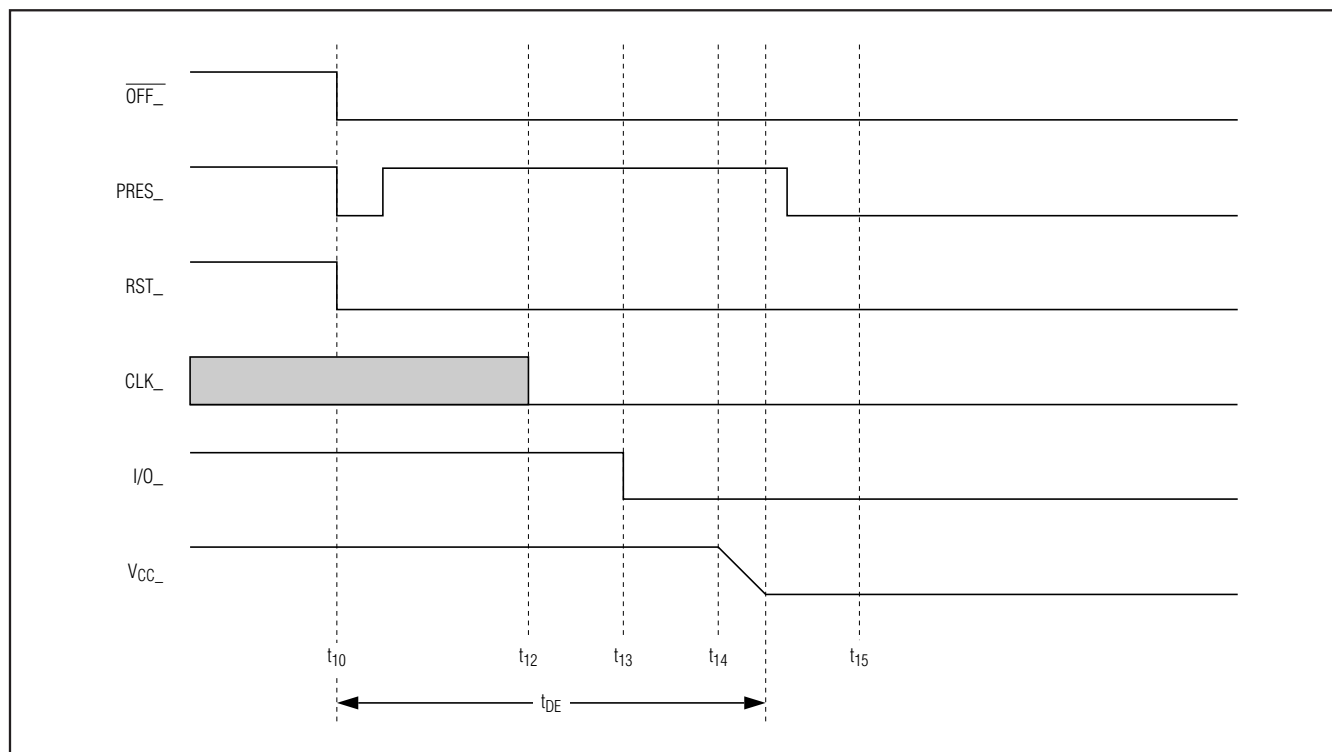

Figure 7. Emergency Deactivation Sequence (Card Extraction)
- **$\overline{CMDVCC}$ Low Within a Card Session.** Output $\overline{OFF_}$ goes low when a fault condition is detected, and an emergency deactivation is performed automatically (Figure 7). When the system controller resets $\overline{CMDVCC}$ to high, it may sense the $\overline{OFF_}$ level again after completing the deactivation sequence. This distinguishes between a card extraction and a hardware problem ($\overline{OFF_}$ goes high again if a card is present). Depending on the connector's card-present switch (normally closed or normally open) and the mechanical characteristics of the switch, bouncing can occur on the PRES_ signals at card insertion or withdrawal.